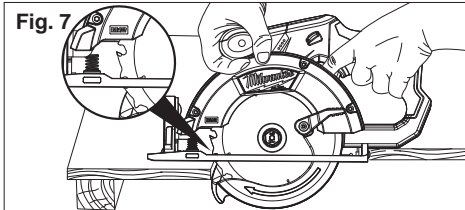

Fig. 7
1. Draw a cutting line. Place the front of the shoe on the edge of the workpiece without making blade contact. Hold the handle with one hand and the front handle with the other (Fig. 7).